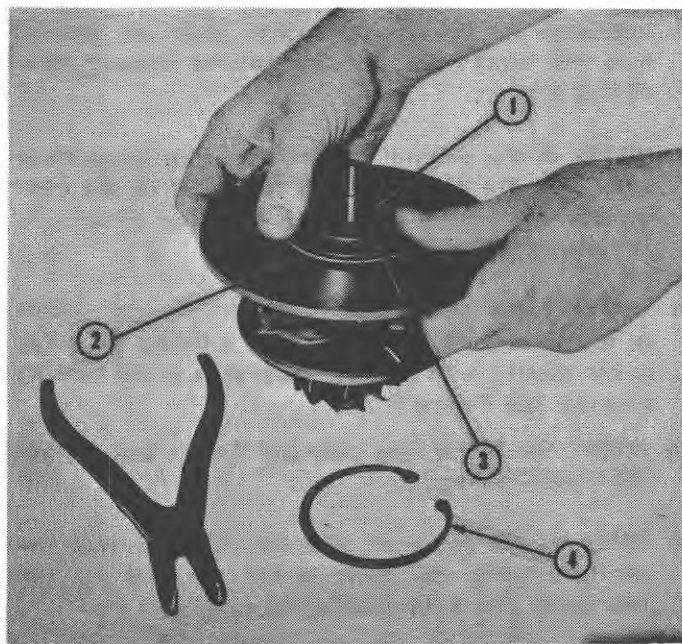

Figure 10
9. Slide the compressor insert, flat side out, over the turbine shaft. Press the insert firmly into the bearing housing counterbore until it clears the snap ring groove in the housing. See Figure 10. Keep the flinger sleeve in place and be careful not to damage the O-ring seal while installing the insert.